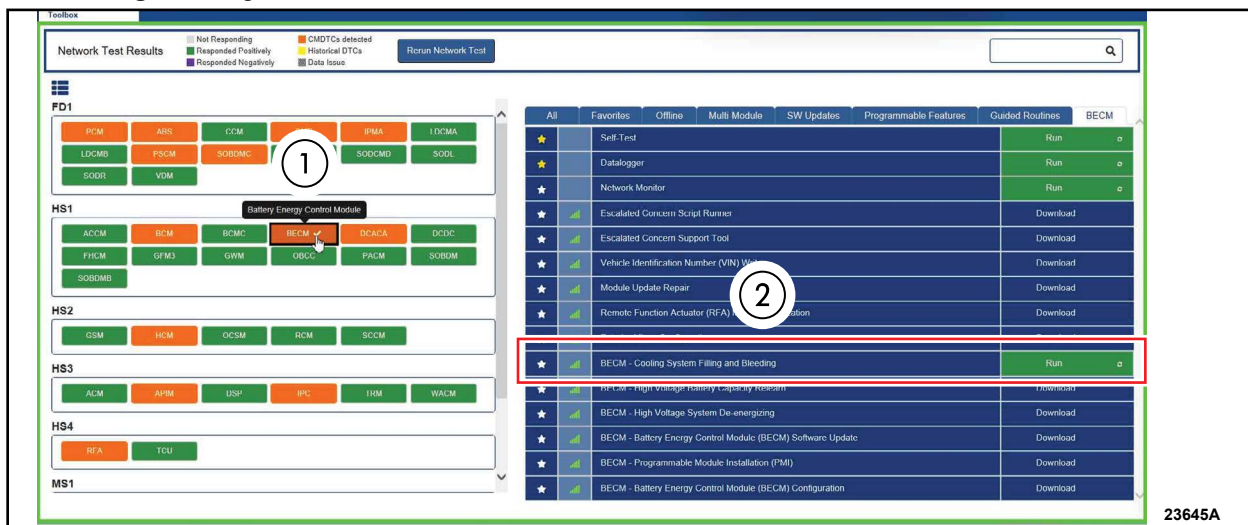

FIGURE 1
6. From the list on the Left Hand (LH) side of the screen, select the Battery Energy Control Module (**BECM**). See Figure 1.
7. From the list on the Right Hand (RH) side of the screen, select **BECM -Cooling System Filing and Bleeding**. See Figure 1.